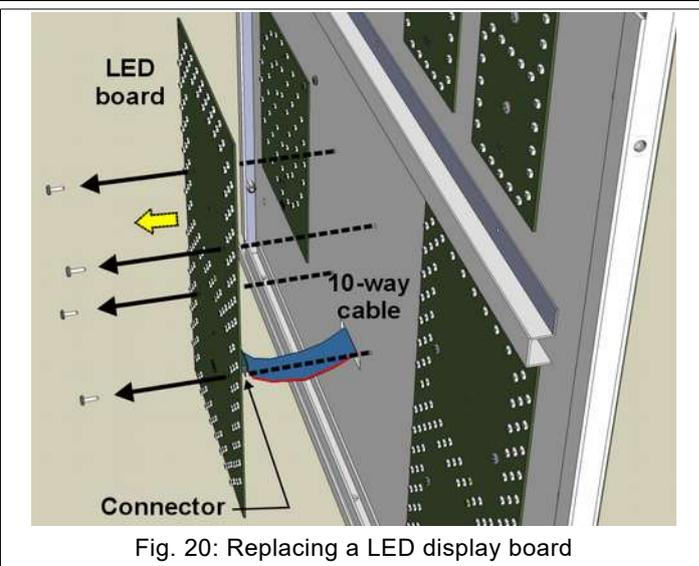

Fig. 20: Replacing a LED display board
2. With a screwdriver, remove the screws from the LED display board in need of replacement (Fig. 20); slightly distance the board from its position in order to remove the flat cable connector.